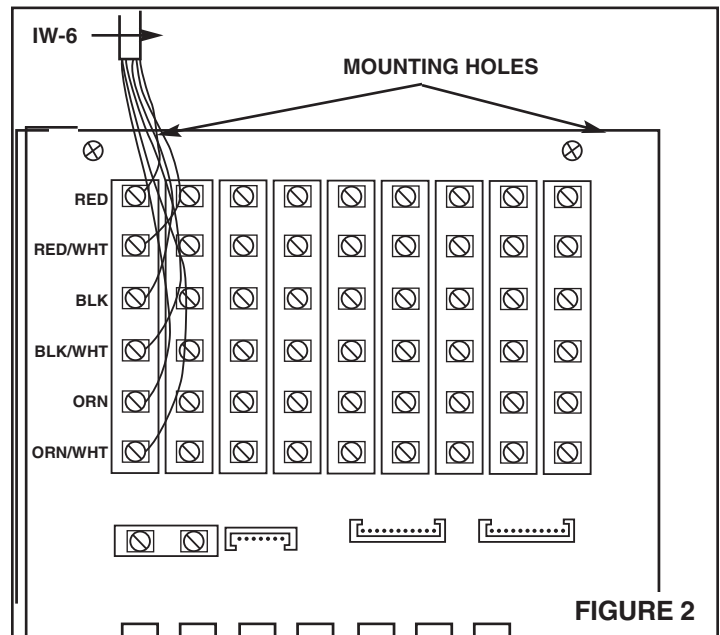

FIGURE 2
2. **Refer to Figure 2.** Connect the IW-6 cable from each remote to the appropriate set of terminal screws at the master station's terminal board. When connecting the cable to the terminal board, be sure to observe the matching of all color codes.